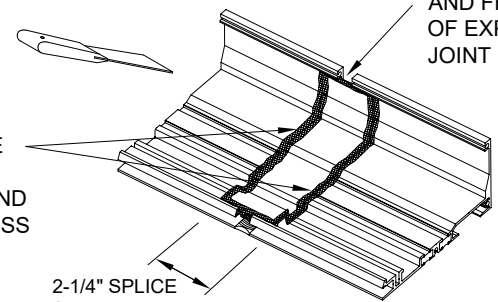

FIGURE 3
- Step 7: Center the Splice Sleeve over the joint. Then, using a putty knife, form the Splice Sleeve along the profile of the flashing. (Figure 3)
- Step 8: Silicone will squeeze out from under the Splice Sleeve. Use putty knife to tool excess silicone over edges of splice sleeve. There should not be excessive build up of sealant thickness at the front and back of the splice where the horizontal sits down on top of the splice.(Figure 3)
- Step 9: Seal back and front of exposed joint and marry into perimeter seals. Be sure to force sealant up under the Splice Sleeve in front. If using 127084 gasket at the sill flashing, install before sealing the exposed joint. Seal the exposed joint. (Figure 3)